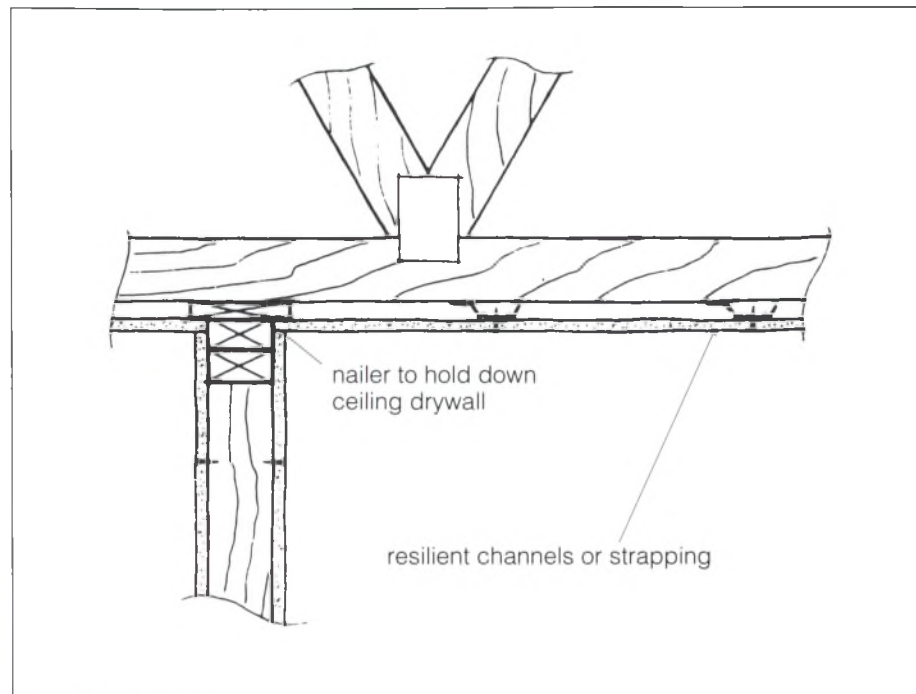

Fig. 11. Strapping
- The general use of ceiling strapping is recommended, as it allows maximum float distances, reduces stress on the drywall, and results in flatter ceilings. Types of strapping include 19 x 64 mm (1 x 3), 38 x 38 mm (2 x 2) and resilient channels. Strapping can be combined with wider top plates or nailers to hold down the ceiling drywall (*fig. 11*).